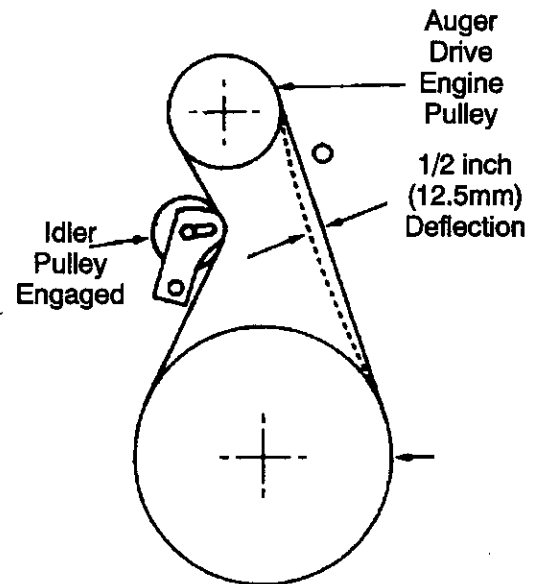

Figure 26
5. Have someone engage auger drive clutch. Check tension on belt (opposite idler pulley). Belt should deflect about 1/2 inch (12.5 mm) with moderate pressure (Figure 26). You may have to move idler pulley more than once to obtain the correct tension.